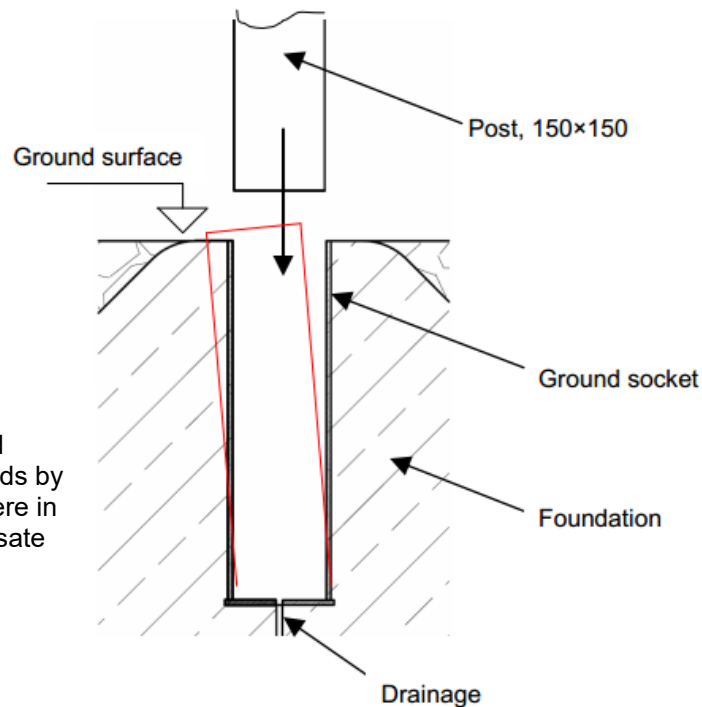

Figure 1: Ground socket installation
Insert ground socket (1) into the concrete foundation (rounded at the top as shown in figure 1; 1×1×1 m). It should sit flush at the top and be positioned at a 90-degree angle to the court marking. The socket must lean backwards by 4–5 mm to compensate for the top-heavy system. To extend the life of your unit, ensure any rainwater can drain away via a channel underneath the ground socket or through an empty pipe inserted into the foundation (see figure 2).